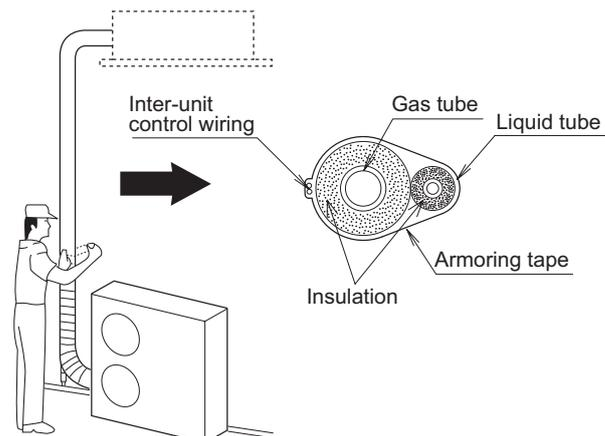

Fig.1- 60
- (1) At this time, the refrigerant tubes (and electrical wiring if local codes permit) should be taped together in 1 bundle. To prevent condensation from overflowing the drain pan, keep the drain hose separate from the refrigerant tubing.
- (2) Wrap the armoring tape from the bottom of the outdoor unit to the top of the tubing where it enters the wall. As you wrap the tubing, overlap half of each previous tape turn.
- (3) Clamp the tubing bundle to the wall, using 1 clamp approx. each meter. (Fig. 1- 60)